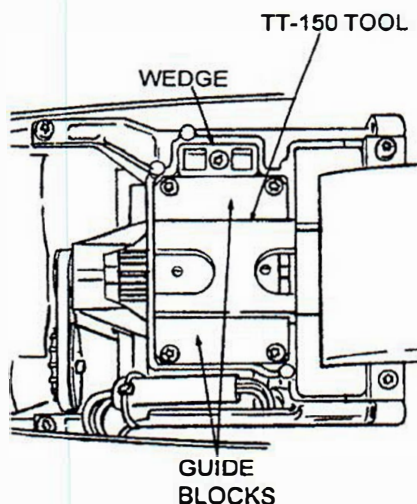

Figure 33. Use of Alignment Tool TT-150 During Slide/Guide Assembly
3. Position slide as shown in Figure 31. Install TT-150 tool with **“FACE UP TO CENTER SLIDE”** (no front or rear orientation) facing up to align bearing assemblies and slide. See Figure 33 and 34.